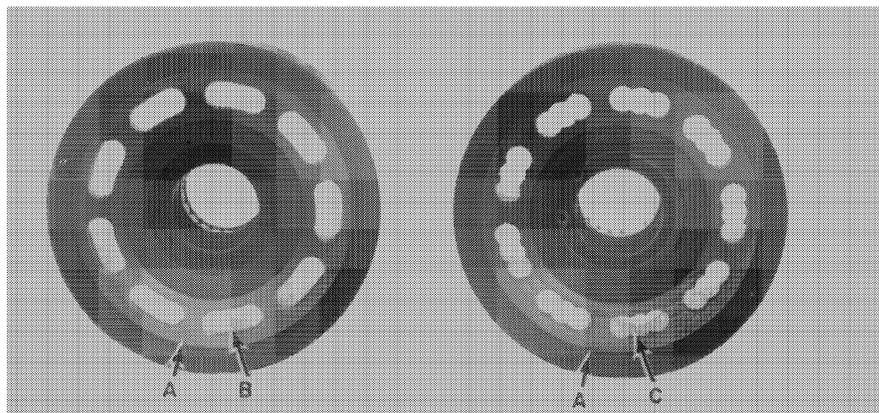

FIGURE 5-13
- b. Surface, A, Figure 5-13, is worn or grooved or shows metal buildup. Nicks must not extend from the cylinders to the edge of the raised area, A.
- c. Cylinder ports may be milled, B, or drilled, C, Figure 5-13, (two types of blocks).